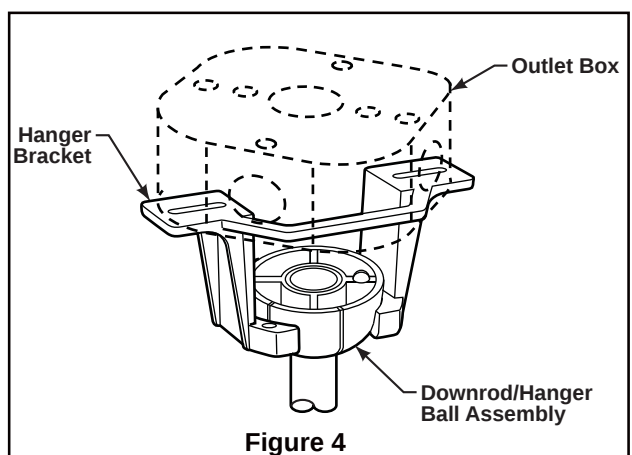

Figure 4
- ☐ 4. Thread downrod into the downrod support on top of the motor. Install the clevis pin by aligning the holes in the downrod support with holes in the downrod. Secure clevis pin with hairpin clip. Tighten the two set screws with nuts in the downrod support. (Figure 4)
2. Carefully lift the fan and seat the downrod/hanger ball assembly on the hanger bracket that was just attached to the outlet box. Be sure the groove in the ball is lined up with tab on the hanger bracket. (Figure 4)
- ☐ **4.** Follow these steps to pair your remote control to your fan. (Figure 4)